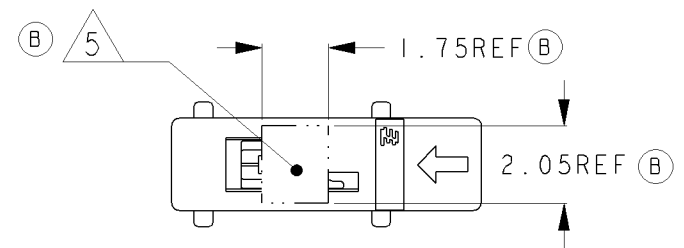

FIG. 4 REFERENTIAL VACUUM AREA
② 5 REFERENTIAL VACUUM AREA: SEE FIG 4